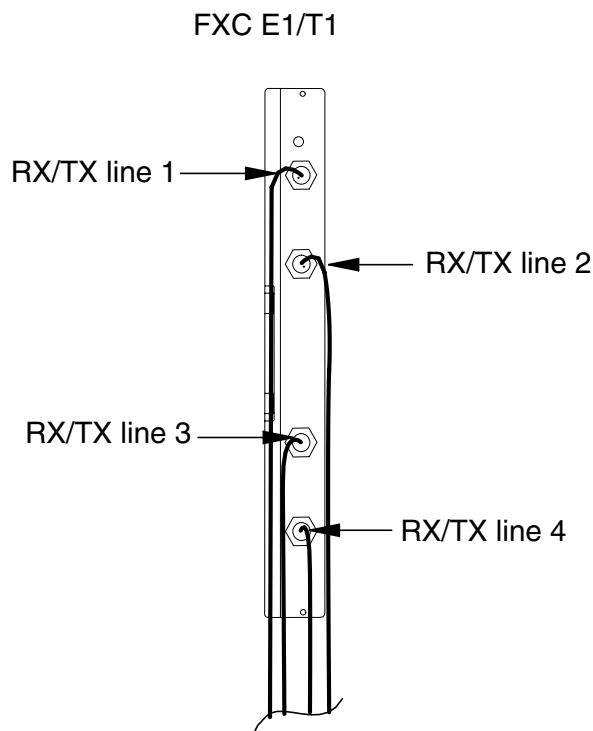

Figure 22. Cabling of the FXC E1/T1 transmission unit
- Connect the connectors of the TX/RX signal lines to the 100/120 Ω TX/RX connectors on the FXC E1/T1 front panel (see Figure 22). Tighten the connector nut properly.